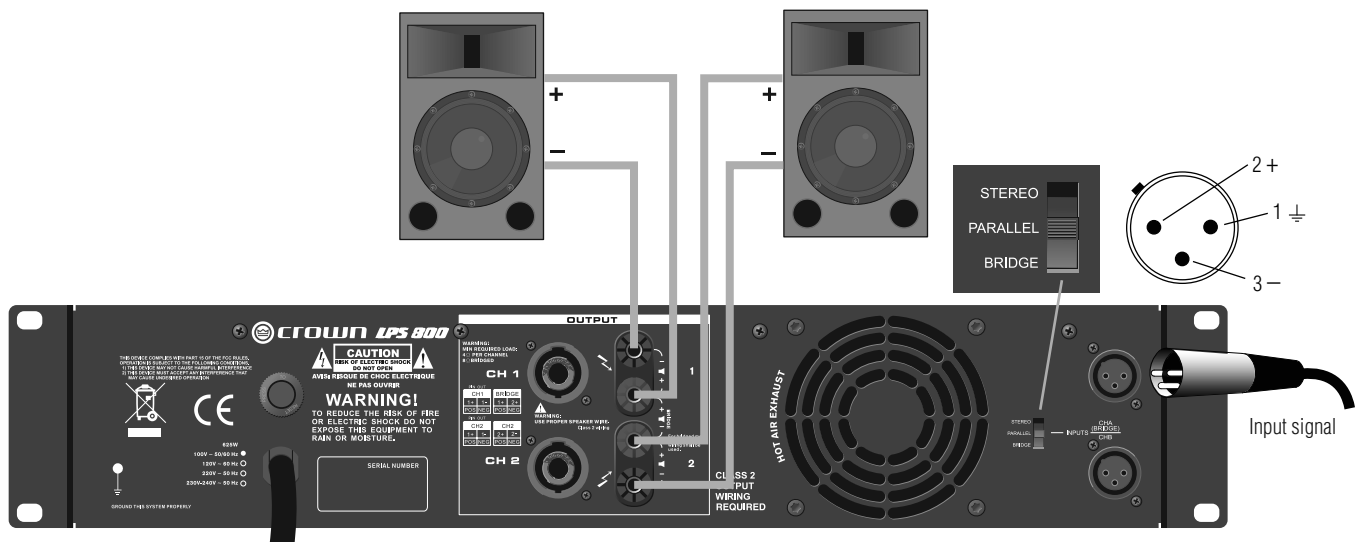

Figure 8. Parallel Wiring With Binding Post Connectors
1. See Figure 8. On the back panel, set the Output Mode Switch to PARALLEL.